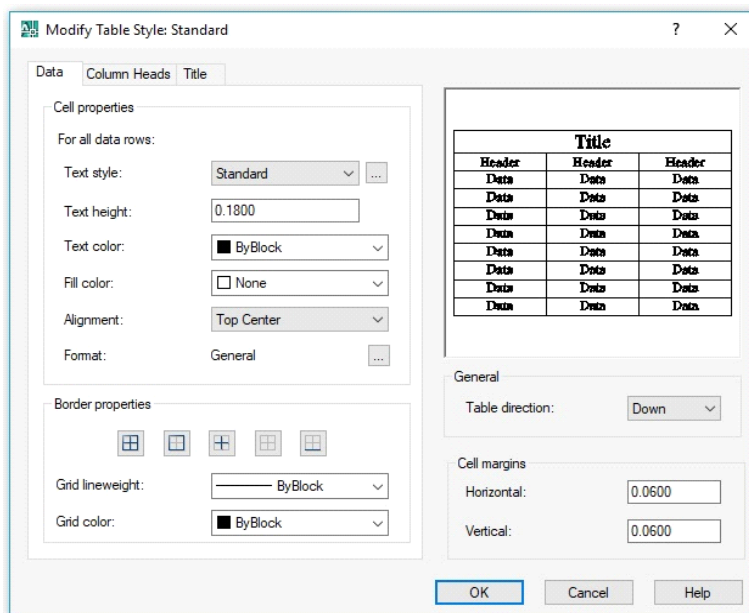

Fig. 1.6: Modify Table Style
- Go to Format Table Style Modify to open the “Modify Table Style” dialogue box as shown in Fig. 1.6.